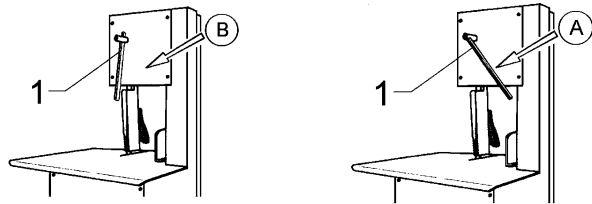

Fig. 7.6.1
7.6.1 Blade tensioning setting (Fig. 7.6.1)
Blade tensioning could be settled mechanically moving knob "1". Rotate the knob in position "A" (Fig. 7.6.1) blade is tensioning. To unblock the blade rotate the knob in the position "B".